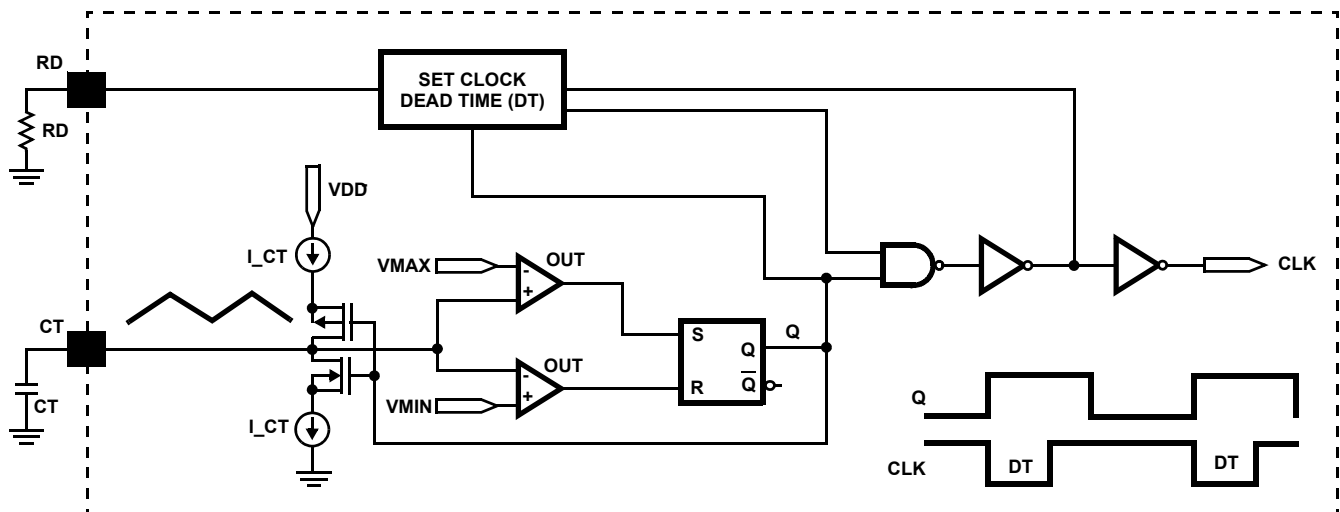
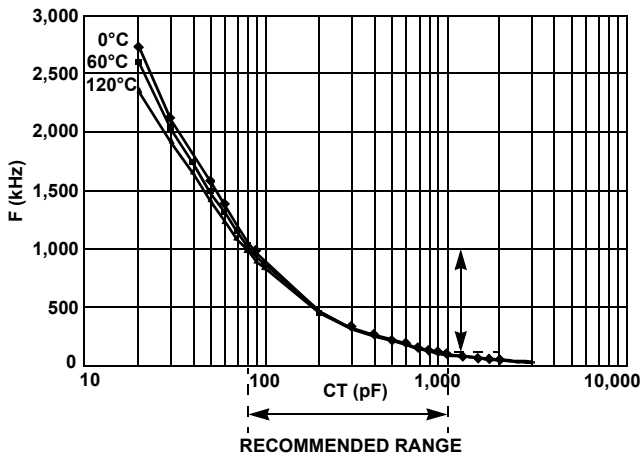

FIGURE 4. SIMPLIFIED CLOCK GENERATOR CIRCUIT
FIGURE 5. CT vs FREQUENCY
- This free-running oscillator is set by two external components as shown in Figure 4. A capacitor at CT is charged and discharged with two equal constant current sources and fed into a window comparator to set the clock frequency. A resistor at RD sets the clock dead time. RD and CT should be tied to the VSS pin on their other ends as close as possible. The corresponding CT for a particular frequency can be selected from Figure 5.